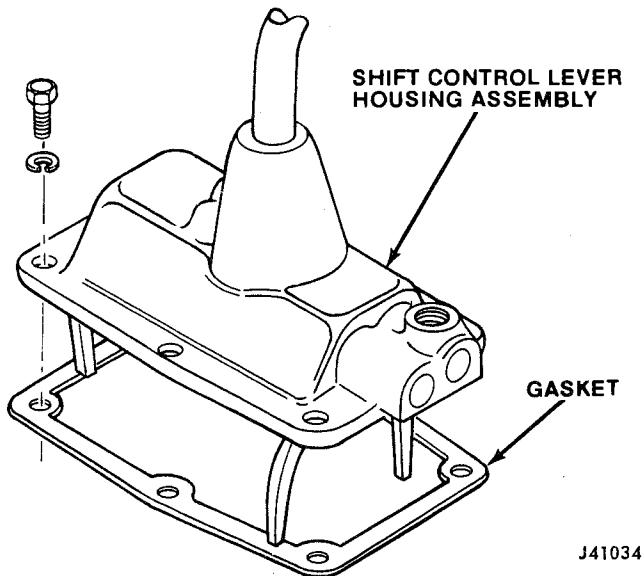

Fig. 2B-1 Shift Control Lever Housing Assembly—3-Speed Transmission
- (1) Remove shift lever knob, trim ring, and boot.
- (2) Remove floor covering and transmission access cover from floorpan.
- (3) On Cherokee and Truck models with T15A transmission, remove shift control lever housing assembly (fig. 2B-1).
- (4) On all models with T18A transmission or CJ models with T150 transmission, remove shift control housing cap, spring retainer, spring, shift lever, and pin (fig. 2B-2).
- (5) On models with T18A transmission, remove transfer case shift lever.
- (6) Raise vehicle.
- (7) Mark front and rear propeller shafts and axle yokes for assembly alignment reference before removal.
- (8) Disconnect front propeller shaft at transfer case and axle and remove shaft.
- (9) Disconnect rear propeller shaft at transfer case only and secure shaft to frame rail.
- (10) Disconnect speedometer cable, backup lamp switch wires, TCS switch wires (if equipped) and parking brake cable if cable is attached to crossmember.
- (11) On models with eight-cylinder engine, remove nuts securing exhaust pipes to manifolds and lower catalytic converter, if equipped, and exhaust pipes.
- (12) Place support stand under clutch housing to support engine.